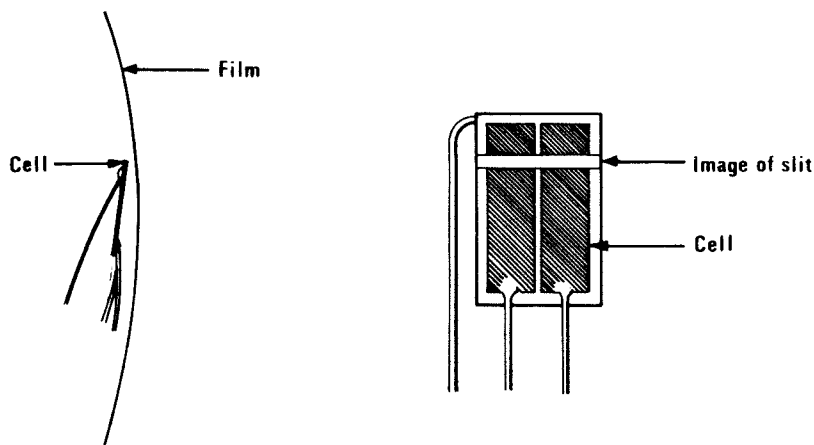

Fig. 7.2.2
- (c) On projector 1 switch on exciter lamp and move the cell towards the film until it almost touches the film plane. If the cell is too far from the film, crosstalk will result. If too near, film and cell damage can occur. An optimum separation is 1 mm from cell to film. Image of slit should be near top of cell (Fig. 7.2.2). Avoid the top edge insulation on the cell. Brackets are factory designed to suit most projectors.